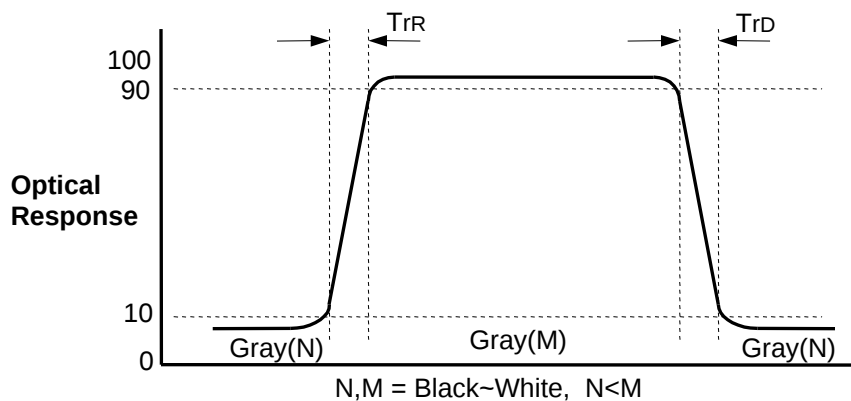

FIG. 3 Response Time
4. Response time is the time required for the display to transition from G(N) to G(M) (Rise Time, T_R) and from G(M) to G(N) (Decay Time, T_D). For additional information see the FIG. 3. ($N < M$)